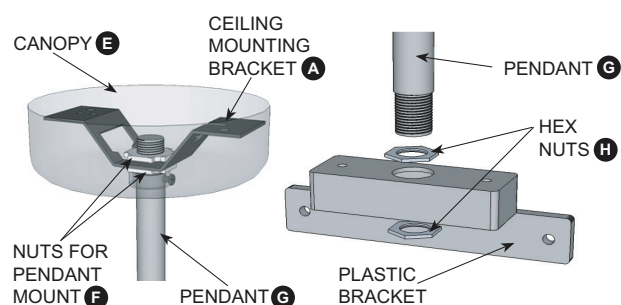

Figure 3
NOTE: Mount bracket to wall or ceiling using the (2) two 1½" Phillips Head Long Screws provided BEFORE affixing the sign to the bracket. The supplied bracket can be used for either ceiling or flag mounting, as shown. If the bracket is going to be used, mount bracket and affix sign in desired position using the two (2) 5/8" Phillips Head Short Screws provided (Figure 3).
Affix ceiling mounting bracket (A) to ceiling. Secure pendant (G) into position using nuts for pendant mount (F). Slide canopy (E) over pendant (G) until ceiling mounting bracket (A) is concealed, tighten canopy screw. Attach plastic bracket (I) to pendant using hex nuts (H). Attach sign to the plastic bracket using the self-tapping 5/8" screws provided (see Figure 3).